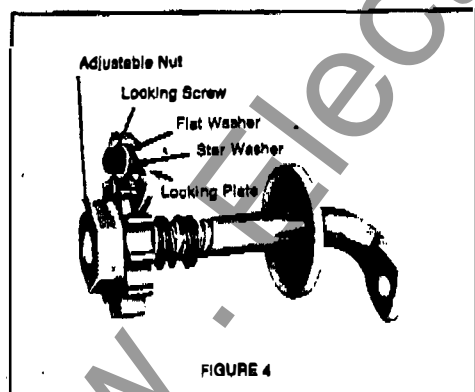

FIGURE 4
- 1—The adjustable nut on the blade assembly (Figure 4).
Close the switch and remove the locking screws and locking plates from all adjustable nuts (6 on a 3 pole device). (See Figure 4)